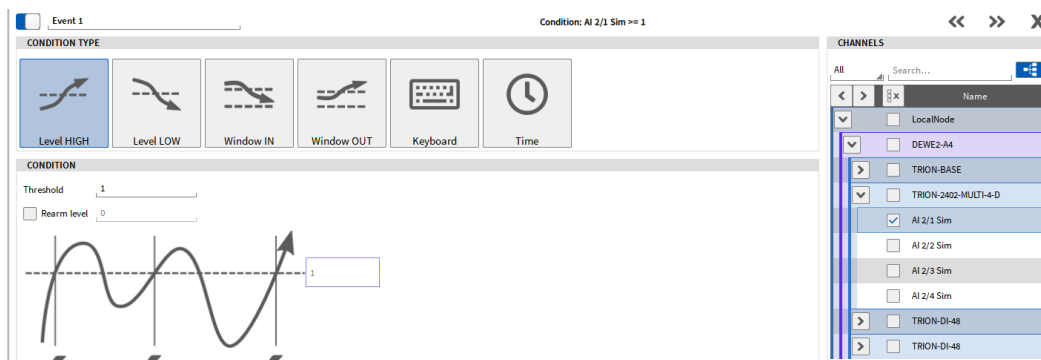

Figure 7-21: Level High Condition Type; Threshold: 1
- Select *Level High* as Condition Type and set the *Threshold* to 1. Select the analog input channel to be triggered on in the Channel List on the right-hand side (see Figure 7-21):